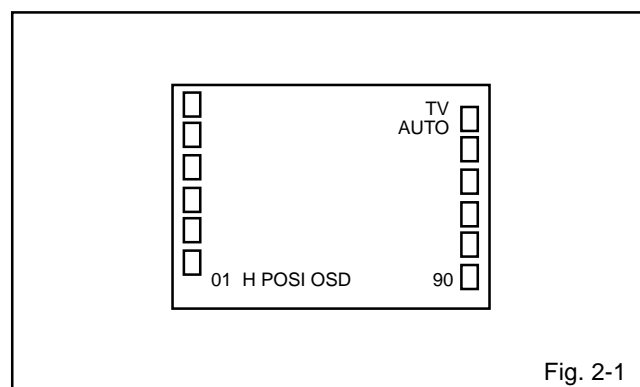

Fig. 2-1
2. Press the VOL. DOWN button on the set and the channel button **(9)** on the remote control for more than 2 seconds to display adjustment mode on the screen as shown in **Fig. 2-1**.